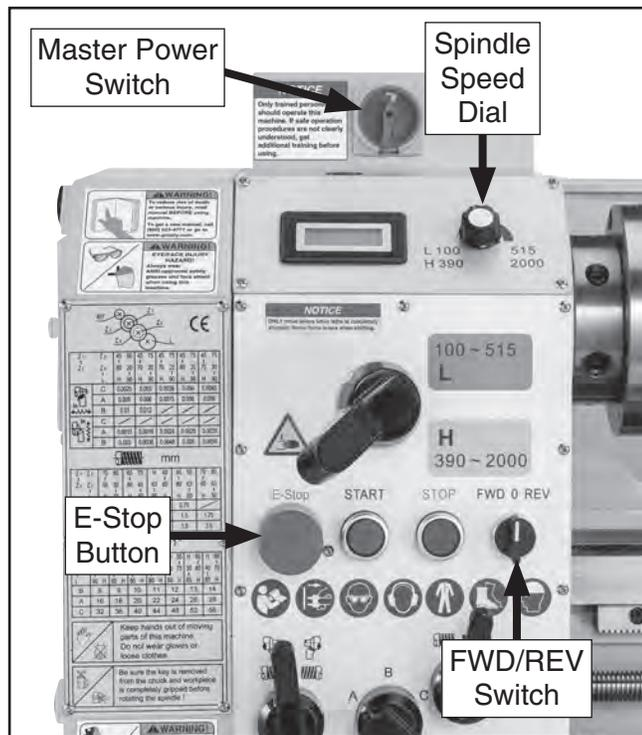

Figure 21. Headstock and gearbox controls.
3. Verify master power switch (see **Figure 21**) is in OFF position.
4. Press E-Stop button (see **Figure 21**).
5. Move FWD/REV switch to "0" position (see **Figure 21**).
6. Rotate spindle speed dial all the way counter-clockwise (see **Figure 21**).